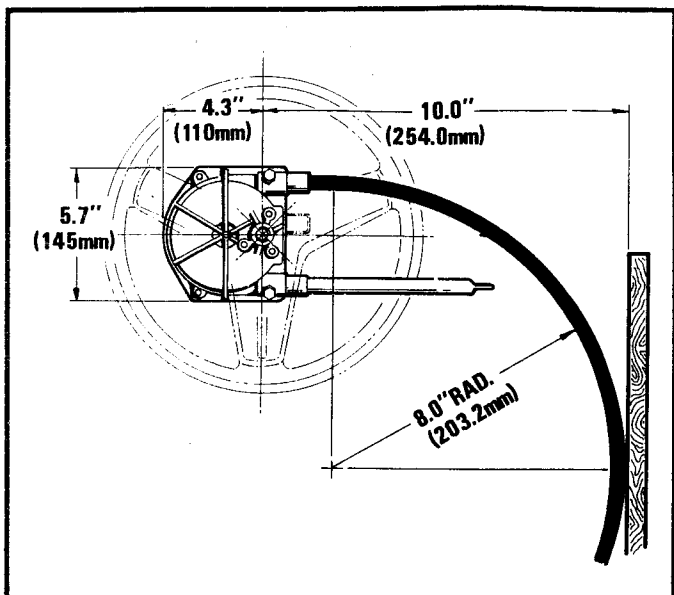

FIGURE 1
2. Refer to Figures 1, 4 and 5 for mounting dimensions.